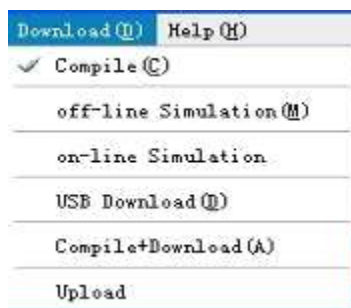

Figure 2-31: Download menu
“Download” menu is used to compile and download configuration project, consisting of four commands, that is Compile (C), Off-line Simulation (M), USB Download (D) and Compile + Download (A). After the touch screen is connected to PC via USB cable, you can download the configuration project to the touch screen after compiling the configuration project. See Figure 2-31.